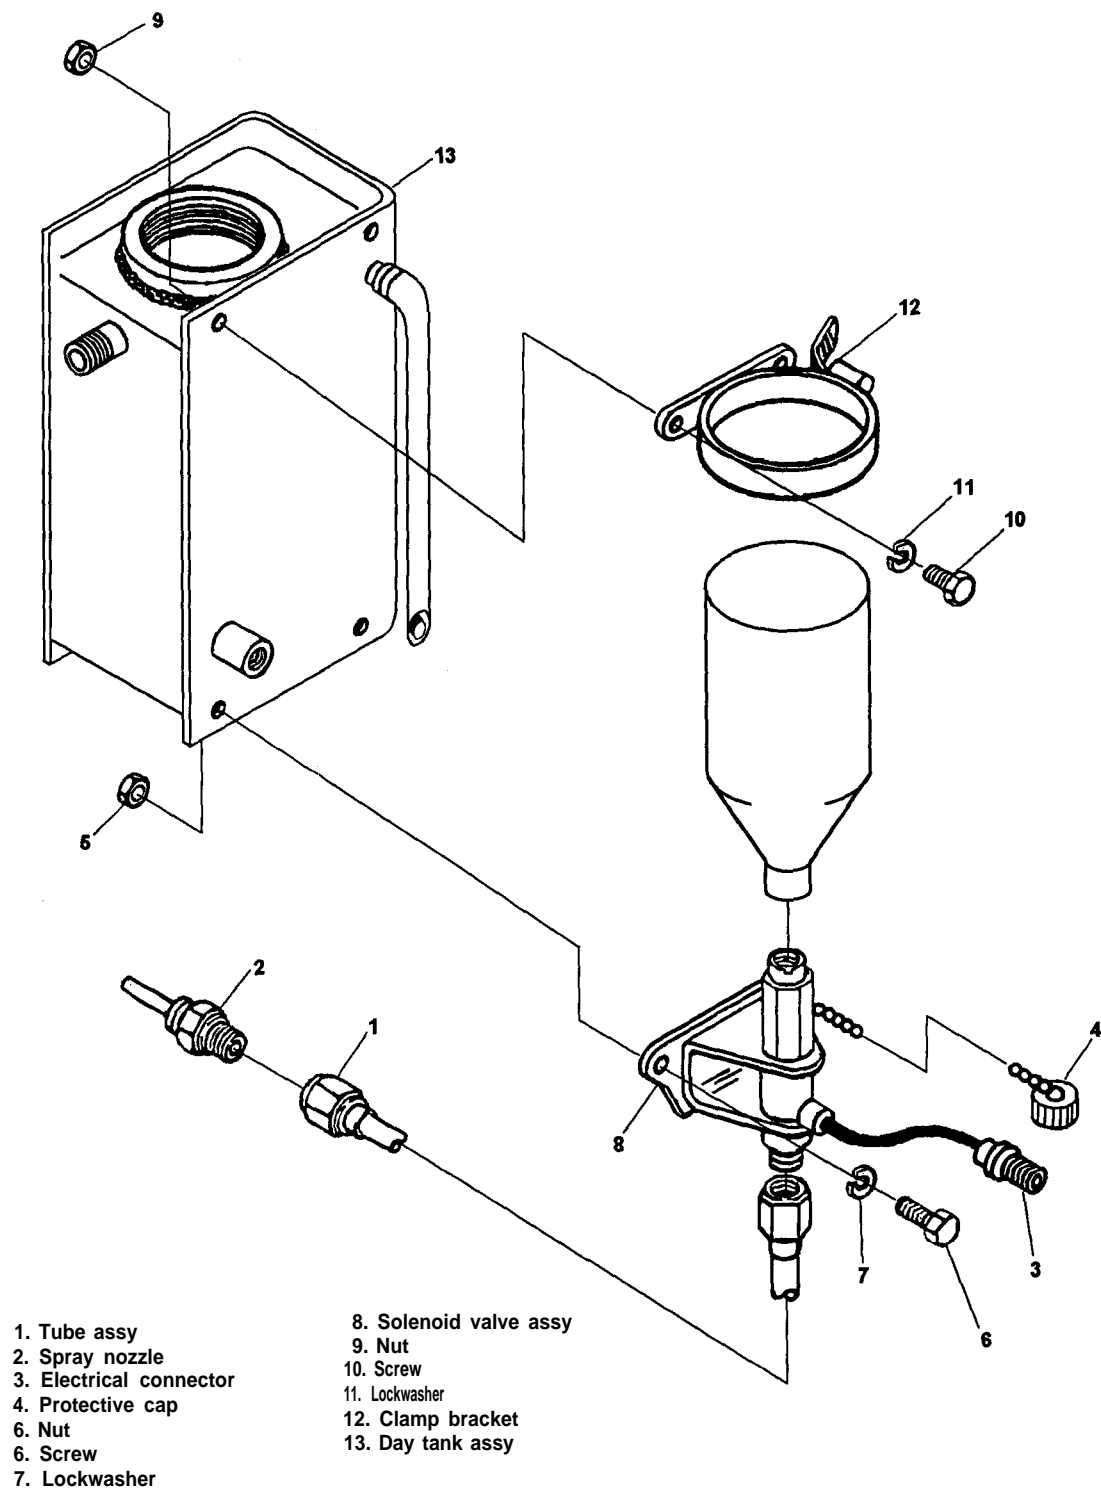

Figure 4-22. Start Aid Assembly, Removal and Installation
- (1) Remove tube assembly (1, Figure 4-22) and unscrew spray nozzle (2) from air cleaner housing.
- (2) Remove ether tank and install protective cap (4) on solenoid valve assembly (8).
- (3) Disconnect electrical connector (3) from solenoid valve assembly.
- (4) Remove nuts (5), screws (6), and lockwashers (7) to remove solenoid valve assembly (8).
- (5) Remove nuts (9), screws (10), and lockwashers (11) to remove clamp bracket (12) from day tank assembly (13).
- (1) Install clamp bracket (12, Figure 4-22), lockwashers (11), screws (10), and nut (9) onto the day tank assembly (13).
- (2) Install solenoid valve assembly (8), lockwashers (7), screws (6) and nuts (5).
- (3) Reconnect electrical connector (3) to solenoid valve assembly.
- (4) Install ether tank and remove protective cap (4) from solenoid valve assembly (8).
- (5) Screw spray nozzle (2) into air cleaner housing and install tube assembly (1).